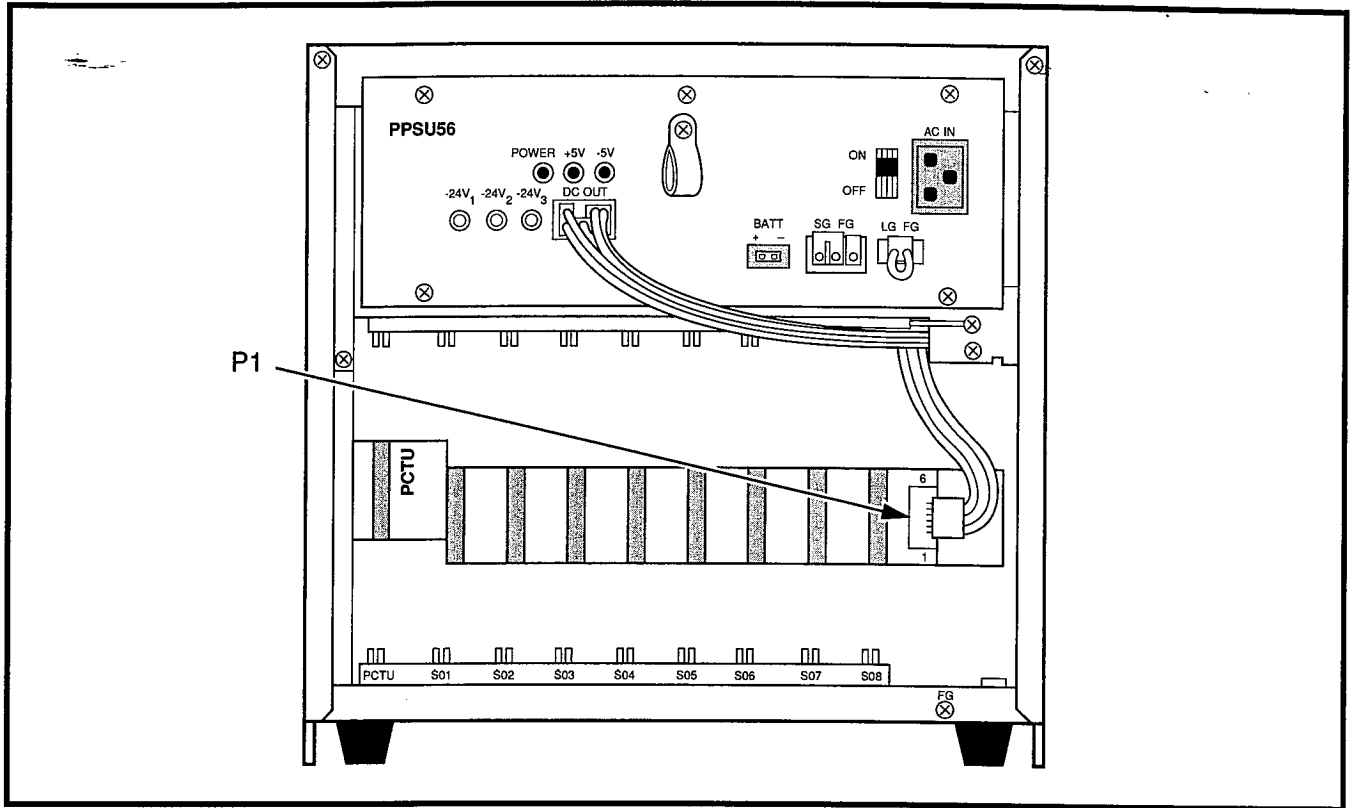

FIGURE 16—DK56 CABINET INTERIOR
- The DK56 cabinet interior (Figure 16) has one shelf with nine PCB slots, labeled PCTU, S01 ~ S08. The power supply is positioned horizontally above the shelf, and is installed at the factory.